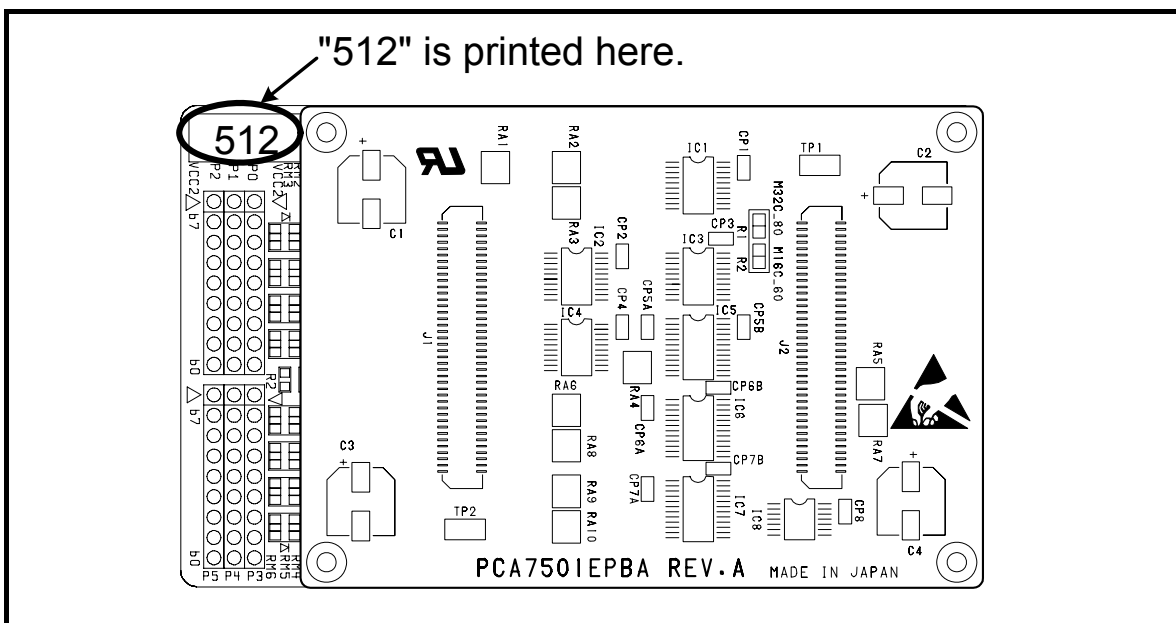

Figure 1.1 Printed area on the M3062PT2-EPB
- * To distinguish the other emulation probe for M16C/60 Series, "512" is printed on the corner of this product. Figure 1.1 shows the printed area.